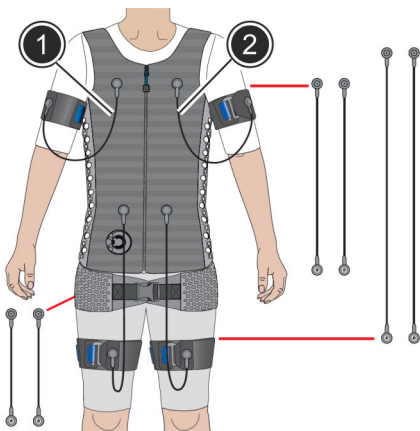

Fig. 42: Connecting the i-body® straps flex
12. ➤ Connect both i-body® straps flex to the i-body® (Fig. 42/1 and 2) to the i-body® cable.
! When connecting the i-body® straps flex, always ensure that the corresponding cables (medium length) are used, in accordance with Fig. 42.